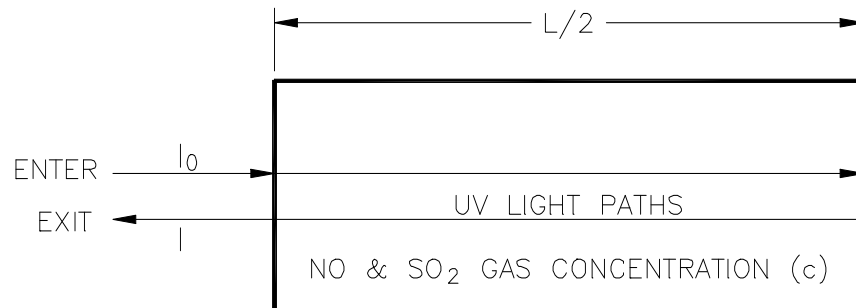

Figure 1. Gas Measurement Cavity
In the SM8160 gas measurement cavity, ultraviolet (UV) light traverses through a constant length absorption medium (Figure 1). Whenever NO or SO₂ exists in the cavity, absorption of UV light occurs. The mathematical relationship between these physical quantities is expressed by this equation: